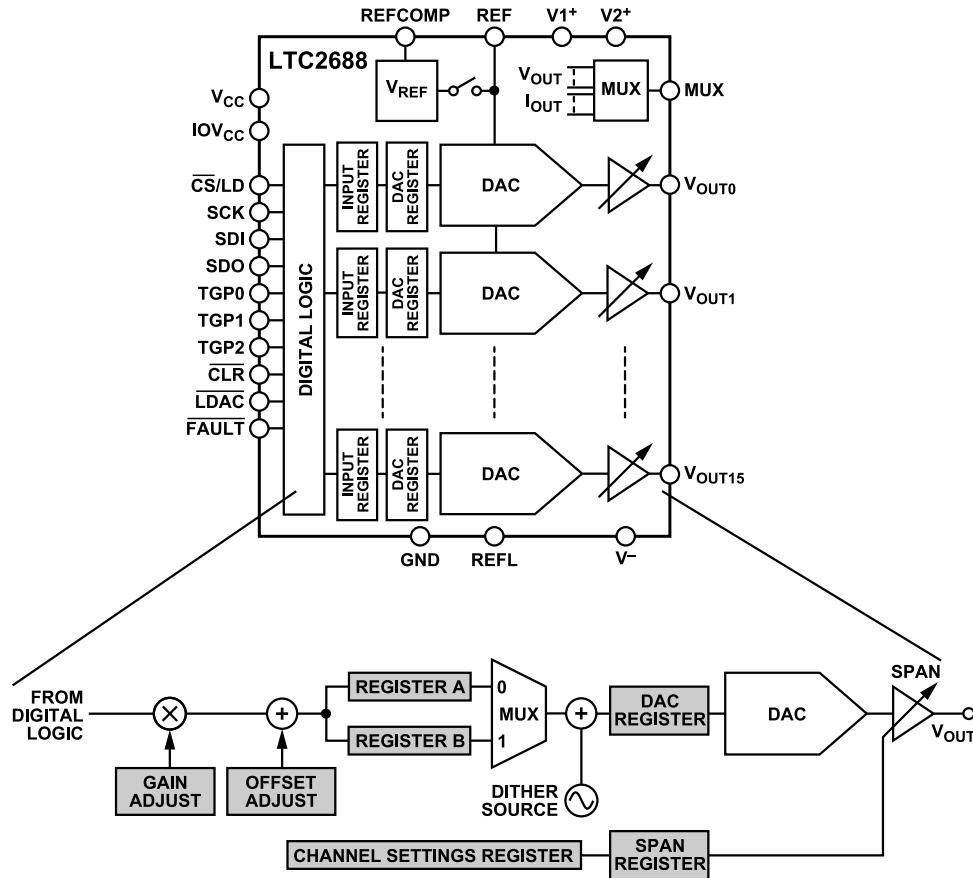

Figure 47. Block Diagram
- ▶ Input register: the write operation shifts data from the SDI pin into a chosen input register. The input registers are holding buffers. Write operations do not affect the DAC outputs directly. In the code datapath, there are two input registers, A and B, for each DAC register. Input Register B is an alternate input register used only in toggle and dither operation, whereas Input Register A is the default input register (see Figure 47).
- ▶ DAC register: the update operation copies the contents of an input register to its associated DAC register. The content of a DAC register directly controls the DAC output voltage or range. The update operation also powers up the selected DAC if it was in power-down mode. The datapath and registers are shown in Figure 47. Updates always refresh both code and span data, but the values held in the DAC registers remain unchanged unless the associated input register values have been changed via a write operation. For example, writing a new code and updating the channel updates the code, but the span is unchanged. A channel update can come from a serial update command, an LDAC negative pulse, or a toggle operation.